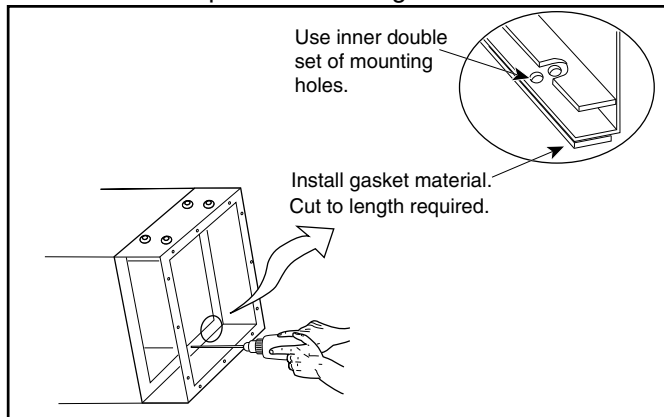

Figure 15 Installation Details
indoor unit. This flange has a double set of holes. See Figure 15.
8. Securely fasten the unit using the self-tapping sheet metal screws provided. See Figure 15.
3. Install the self-adhesive gasket material on the side of the air cleaner cabinet flange that will mate with the indoor unit. This flange has a double set of holes. See Figure 15.
- Securely fasten the unit using the self-tapping sheet metal screws provided. See Figure 15.